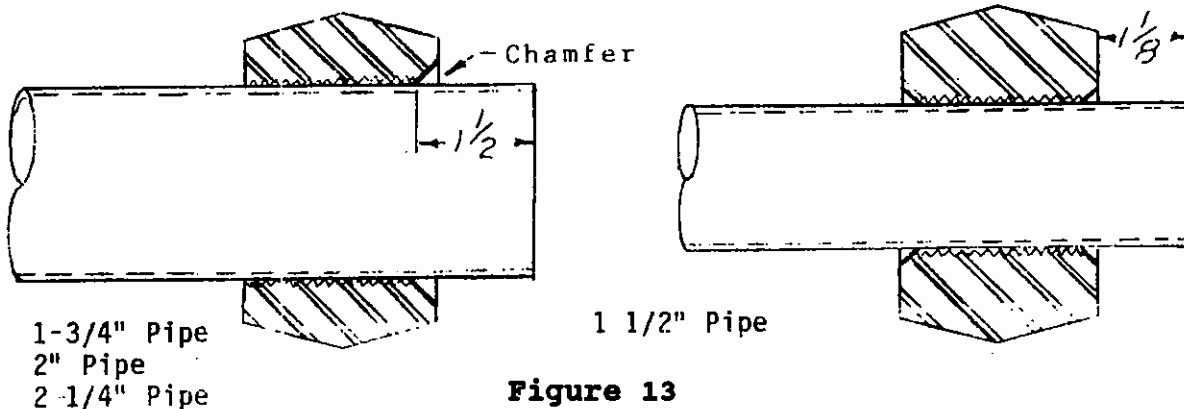

Figure 13
D) Measure the proper distance from the end of the pipe. (1 1/2" for 2" x 45 degree crimp and 1 1/8" for 1 1/2" x 90 degree crimp). These dimensions may vary slightly, therefore, it is recommended that the operator experiment with the tool on a scrap piece of pipe until the desired results are obtained. (See Fig. 13).
E) Select the proper size collet and clamp the pipe securely in the vise. (Note: When forming the 1 3/4", 2", and 2 1/4" x 45 degree crimp, make certain the deep chamfered inside edge of the collet is toward the tool). (See Fig. 13).